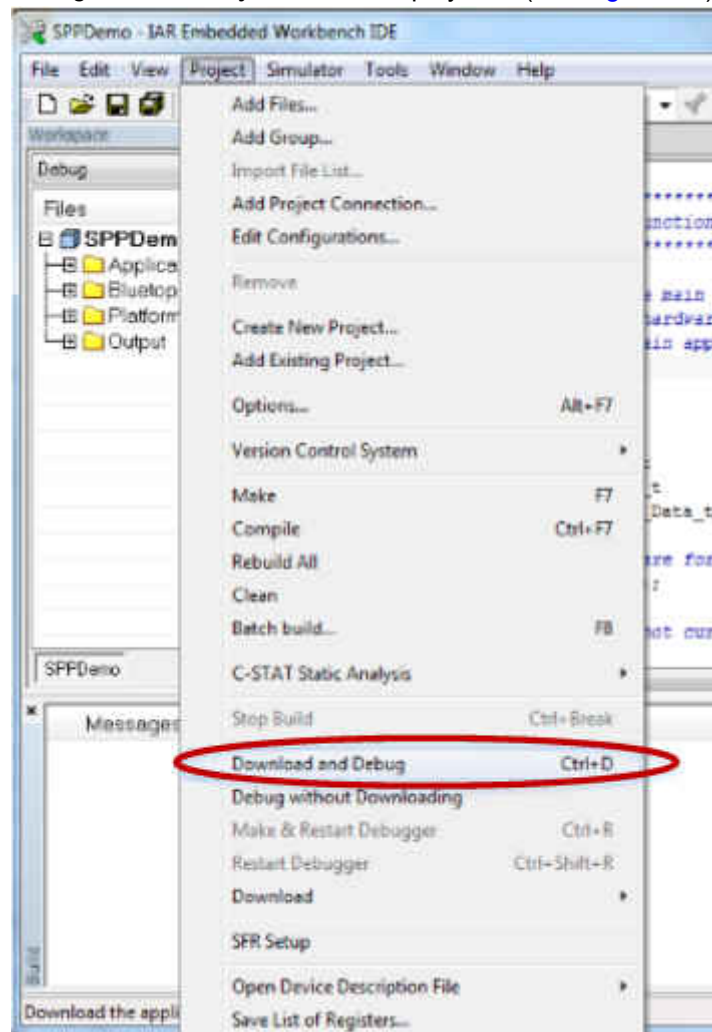

Figure 6-6. Download and Debug
7. Select *Download and Debug* from the *Project* tab or the play icon (see Figure 6-6).